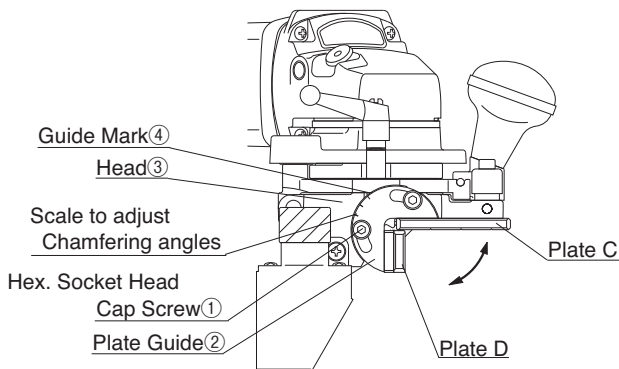

Fig.6
- (1) Loosen the Hex. Socket Head Cap Screws ① (4pcs) on both ends on the Plate Guide ② of Head ③. (Fig.6)
- (2) Move the Plate Guide ② so that the scale of desired angle can align to the Guide Mark ④.
- (3) Tighten the Hex. Socket Head Cap Screws ①.